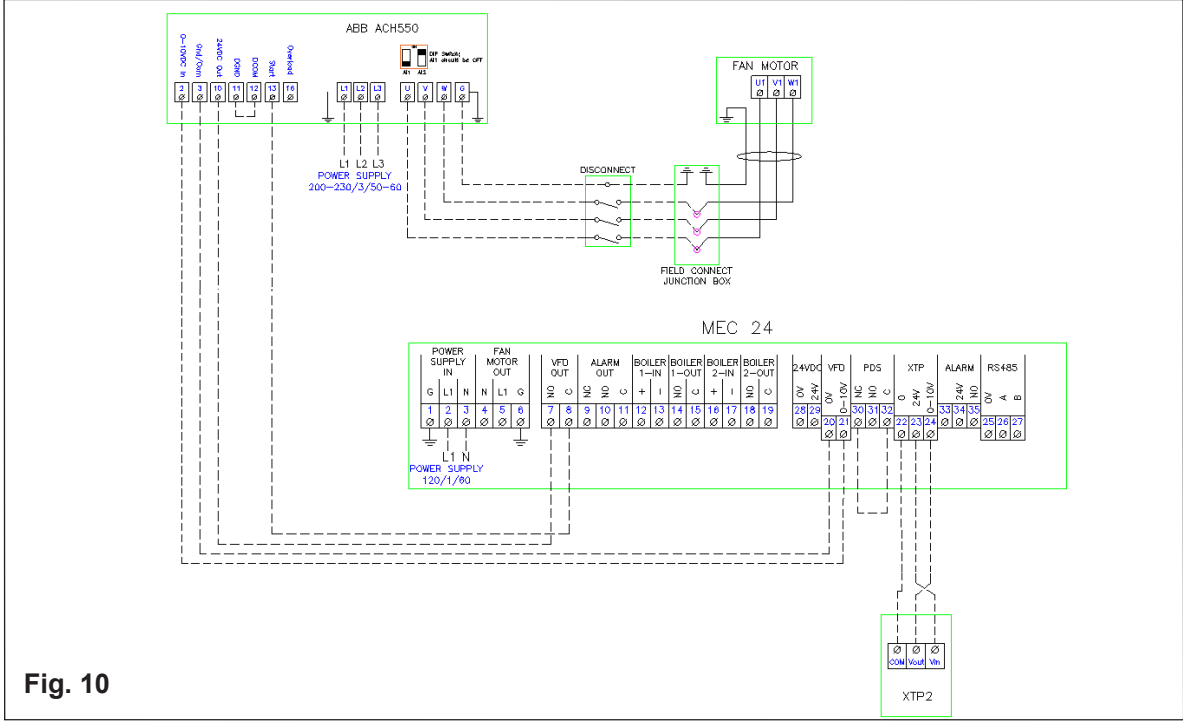

Fig. 10
- ▶ If using a 3-phase fan and VFD, connect the VFD to terminals 20 and 21 as shown in Fig. 10 and 11. **DO NOT** connect the fan directly to the MEC24 control.
- ▶ If using a 3-phase fan and VFD, connect the VFD to terminals 20 and 21 as shown in Fig. 10 and 11.
To connect the 3-phase fan and variable frequency drive (VFD), connect the VFD to terminals 20 and 21 of the MEC24. **DO NOT** connect the fan directly to the control. Wire the ABB ACS355 series variable frequency drive according to fig. 10.